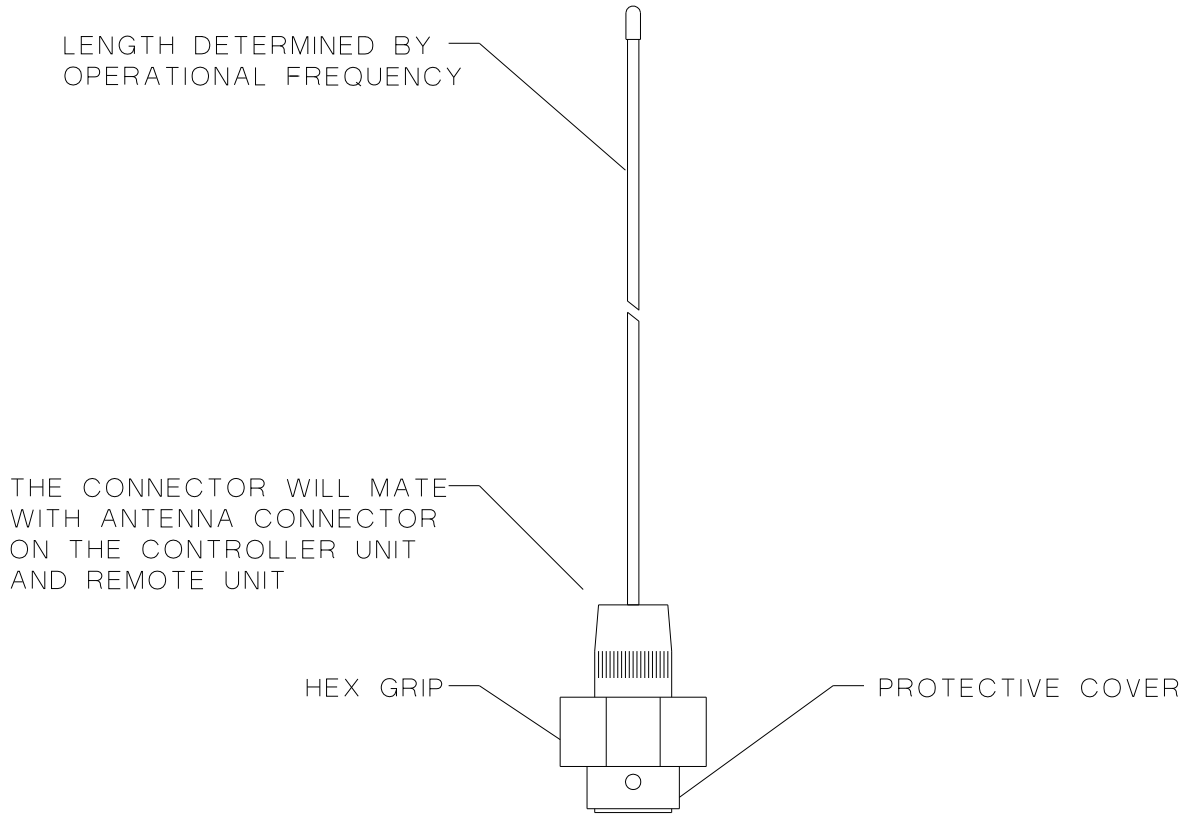

Figure 2-11 Antenna Assembly
2.9.1. Figure 2-11 provides the physical size, technical requirements and view of the Antenna Assembly. The power to the Mini Controller Unit and Remote Unit is interrupted when the Antenna Assembly is not connected.